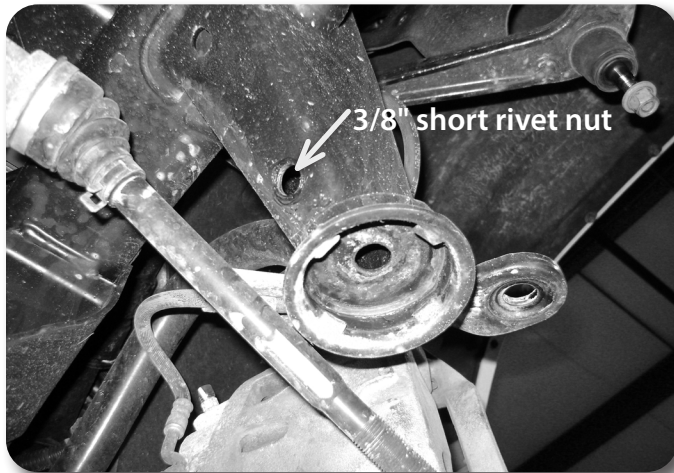
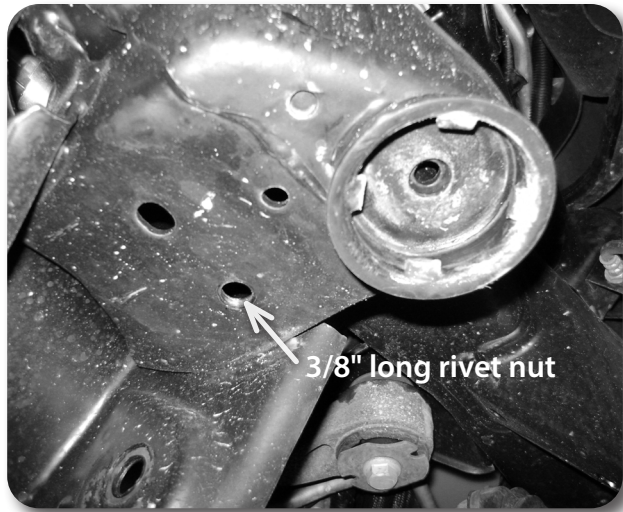

Figure 23A
Figure 23B
33. Four holes need to be slightly clearanced on the factory bump stop mounts to accepted the rivet nuts. The 3/8" rivet nuts need the holes drilled out to 17/32". If the necessary bits are not available, a rotary grinding tool can be used to enlarge the holes to the proper size. Take care not to open the holes too much. Drill out the holes shown in **Figure 23A** (front mount) and **Figure 23B** (rear mount).